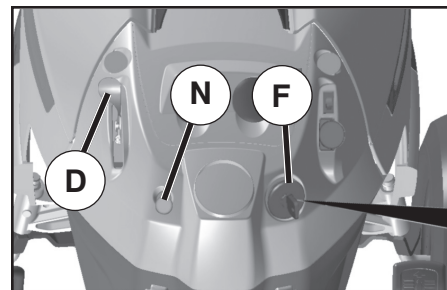

Fig. 6
### TO USE THROTTLE CONTROL (D) (See Fig. 6)
### TO USE CHOKE CONTROL (N) (See Fig. 6)